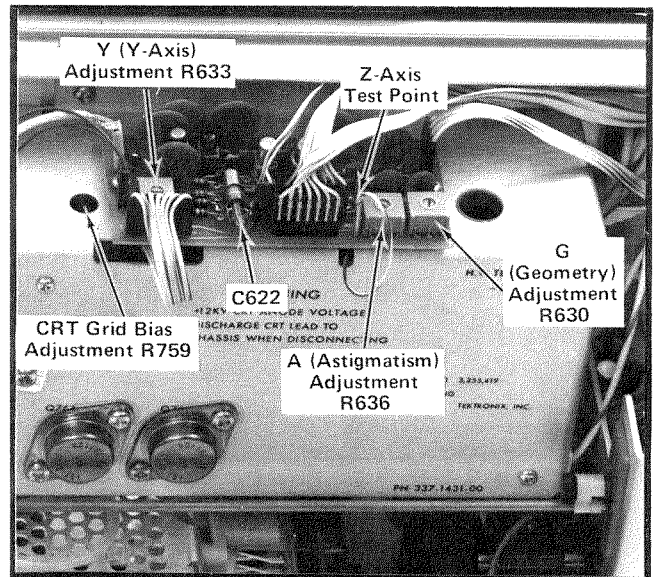

Fig. 5-4. Locations of Display and Z-Axis Adjustments and test point.
d. Connect the DC voltmeter (VOM) between the Z Axis test point (see Fig. 5-4) and chassis ground. Note the voltmeter reading.
f. ADJUST—CRT Grid Bias adjustment R759 (see Fig. 5-4) so the dot on the CRT screen is just extinguished.
f. ADJUST—FOCUS control and A (Astigmatism) adjustment R636 (see Fig. 5-4) to obtain best display definition.
e. Connect the probe tip to the Z-Axis test point (see Fig. 5-4).
i. ADJUST—C622 (see Fig. 5-4) for optimum square leading corner (use low-capacitance screwdriver to adjust variable capacitor).
d. ADJUST—Y (Y-Axis) adjustment R633 (see Fig. 5-4) to align the trace with the center vertical line.
- l. ADJUST—G (Geometry) adjustment R630 (see Fig. 5-4) for minimum bowing of time markers. Adjustment may have to be compromised to obtain less than 0.1 division bowing and tilt everywhere within the graticule area.